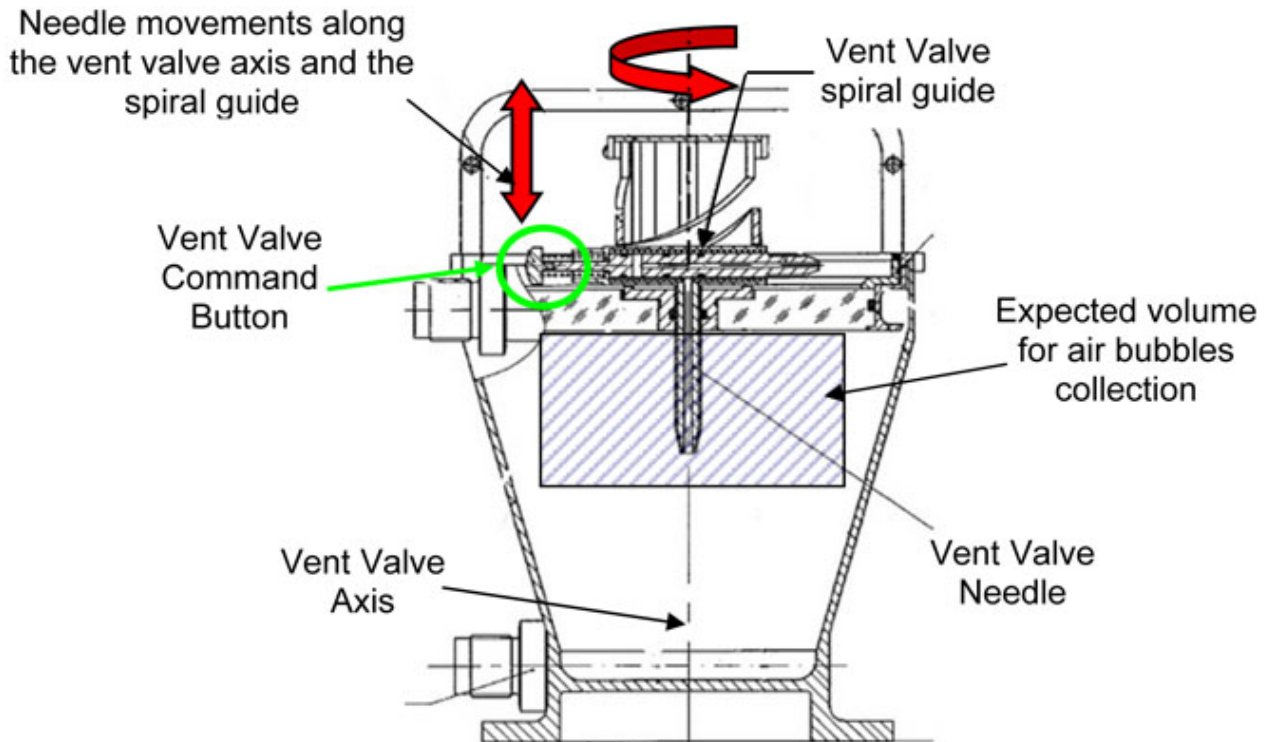

Figure 10. Cross section of the Hydrocyclone Separator (HCS)
1. Due to the centrifuge effects, the air bubbles are expected to be collected along the Vent Valve axis, on the upper third of the HCS. Refer to Figure 10.
4.10 Twist the Vent Valve along the spiral guide, thus moving the tip of the valve needle until it reaches the bubble position. Refer to Figure 10.